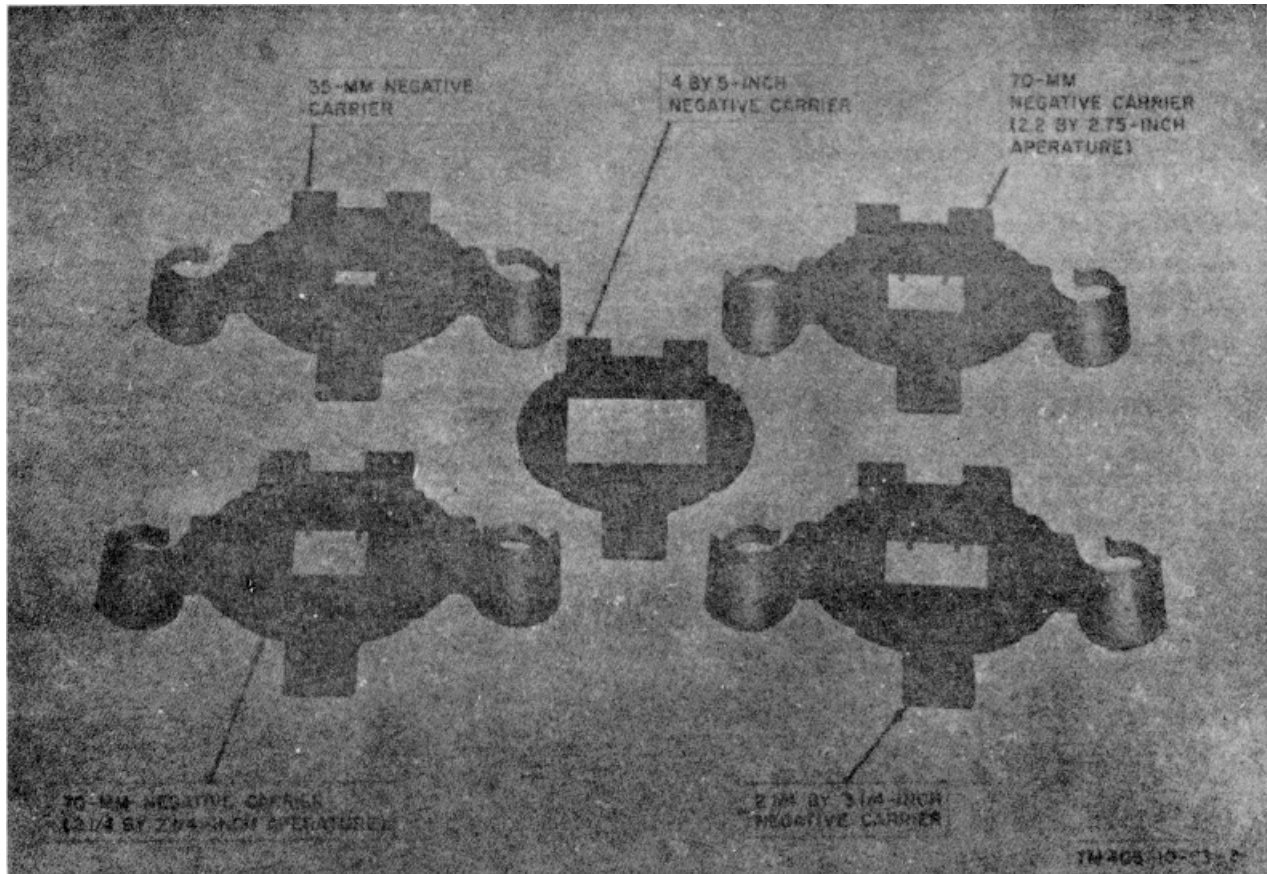

Figure 25.1. Negative carriers furnished with EN-20(2).
Four rapid-shift negative carriers are supplied with the EN-91A (fig. 25.1).
- (3) EN-91A (fig. 25.1).
Page 31. Add figure 25.1 after figure 25.